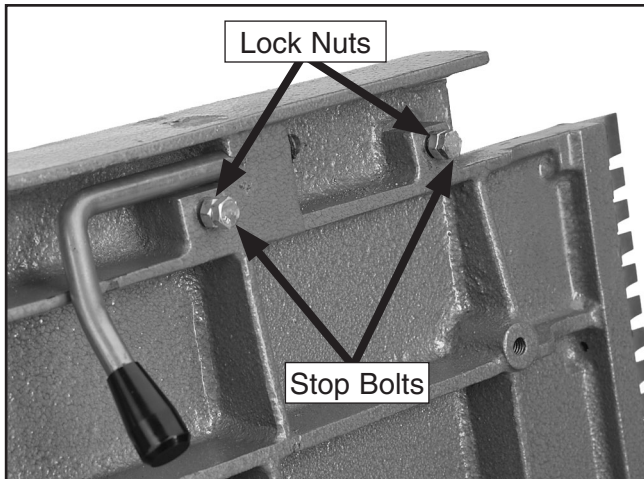

Figure 54. Outfeed table stop bolt and lock nut.
1. Loosen the lock nuts on both stop bolts shown in **Figure 54** at the front of the table.